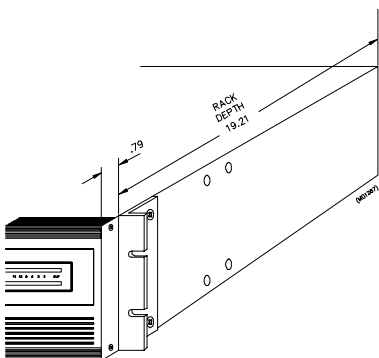

Figure 2: Rack Mount Installation
3. Mount the DataNex digital radio in a standard 19" cabinet using the dog ears as shown in Figure 2.